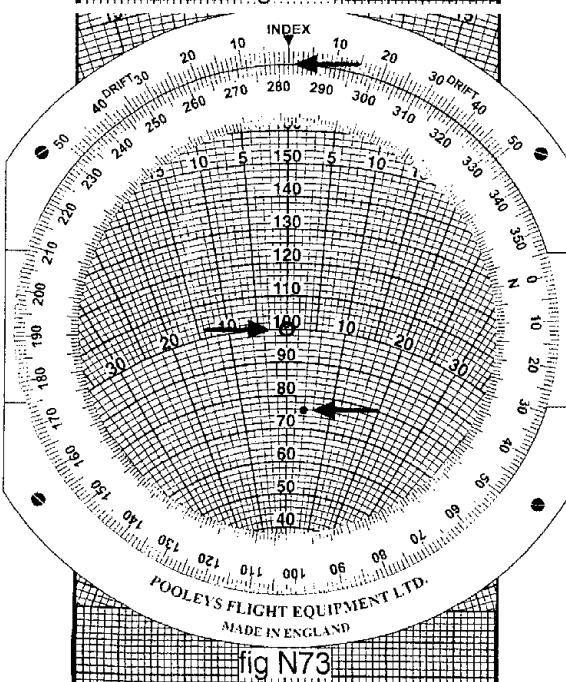

fig N73
**Note:** The soft pencil mark has now moved 4° to the right (fig N73).